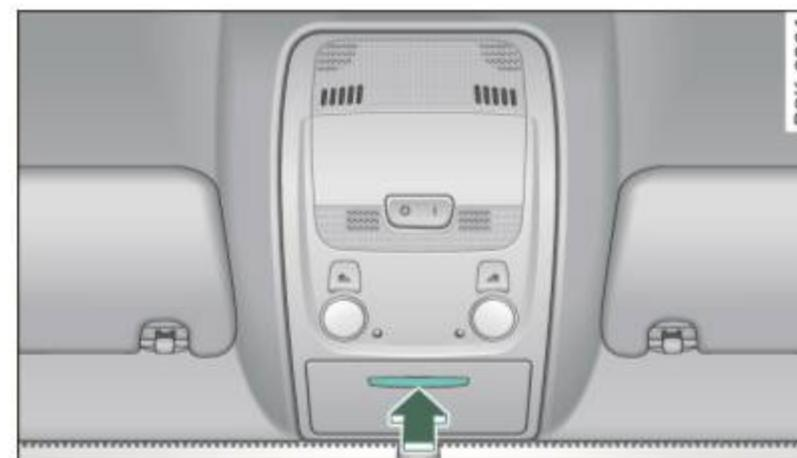

Fig. 101 Storage pocket in the roof
- To open the lid you have to touch the bar ⇒ fig. 101 (Arrow). The lid opens automatically.